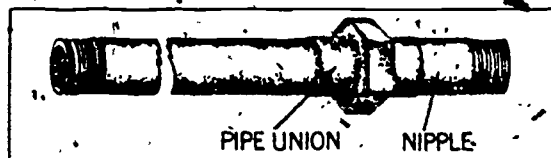

Figure 2-42. Union and nipple.
**a. Repairing a leaking joint.** If a leak develops in a joint, tighten the pipe in the fitting at this point. This cannot be done easily, unless the section of pipe was assembled with a union like the one shown in figure 2-42. If there is a union in the pipe, loosen it and screw the pipe into the fitting a few turns, then retighten the union. This should stop the leak. If the pipe is not fitted with a union, you will have to cut the pipe in order to tighten the joint. But this is not all. You will have to install a union where you cut the pipe. To do this, cut the pipe with a hand-operated pipe cutter or hacksaw within 5 inches of the fitting, if possible, so that a short nipple can be used. Now, insert a new section of pipe if the system is old, or rethread the section if the system is new. Put the section and nipple together with a union after the leaking joint is tightened.